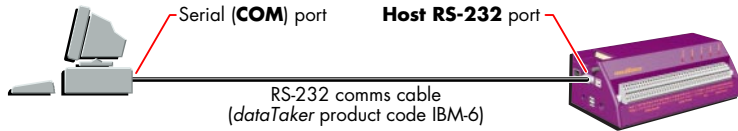

FIGURE 76 Direct (local) connection
A common (and the most simple) way of communicating with the DT800 (for configuring it, programming it and retrieving data from it) is to connect its Host RS-232 port directly to a serial port on the host computer using the RS-232 comms cable supplied. This is known as a **direct connection** to a local DT800 (Figure 76).
- 1** Connect a suitable comms cable between a serial port on the host computer and the DT800’s Host RS-232 port as shown in Figure 76. Suitable cables are discussed in “Direct RS-232 Cable” above.